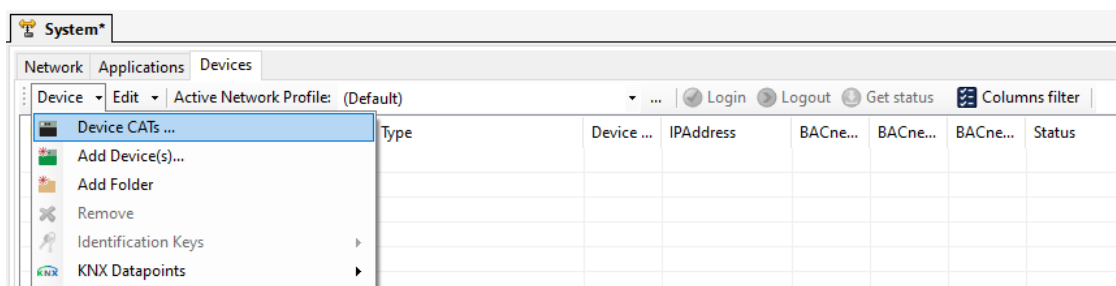

Figure 51: Create device resources in the system.
20. Select the **Devices** tab. Then click on the **Device** dropdown and choose **Device CATs...** in order to create the device resources (see Figure 51).